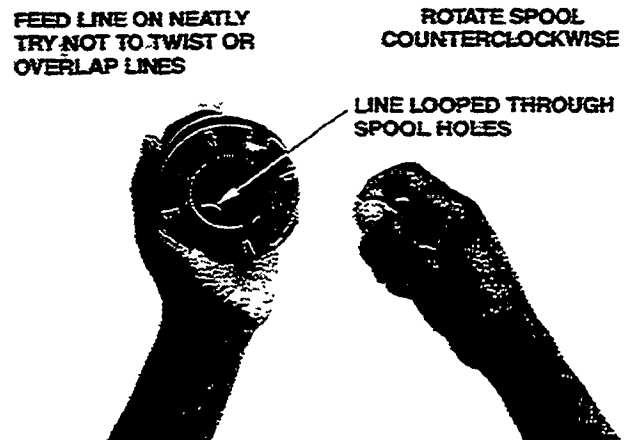

Figure 11
- Loop line through holes in spool and make certain that both lines are even (**Figure 11**).
- Hold spool as shown (**Figure 11**) and feed line on neatly by rotating the spool counterclockwise.